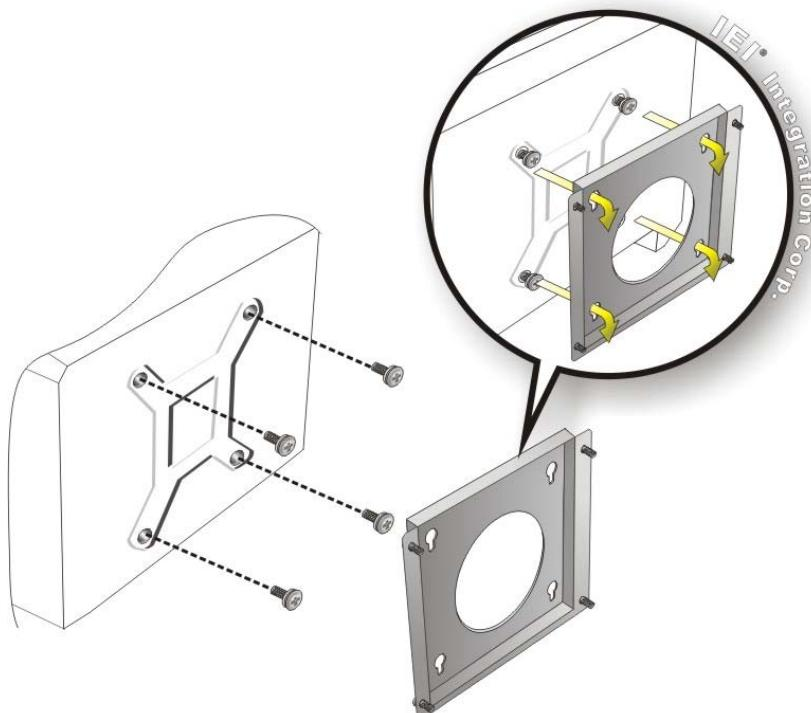

Figure 3-16: Mount the Chassis
Step 6: Insert the four monitor mounting screws provided in the wall mounting kit into the four screw holes on the real panel of the monitor and tighten until the screw shank is secured against the rear panel (**Figure 3-16**).
Step 8: Carefully insert the screws through the holes and gently pull the monitor downwards until the monitor rests securely in the slotted holes (**Figure 3-16**). Ensure that all four of the mounting screws fit snugly into their respective slotted holes.